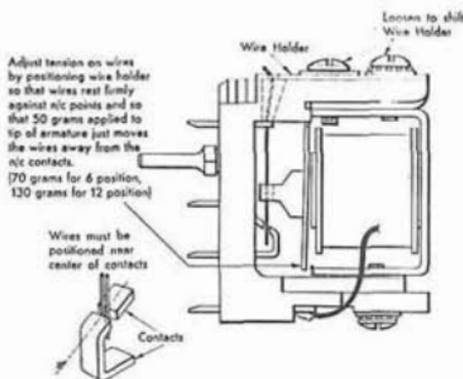

Figure 18
- Figure 18. The contact wires should be inspected to insure that they are positioned near the center of the contacts (Insert, Figure 18). Armature end shake must not permit the wires to reach the edge of the contacts, but the armature pivot must be free.
- Figure 18. Adjust tension on the contact wires by shifting the wire holder so that a 50-gram pressure applied at the center of the free end of the armature just moves the wires away from the contacts on the normally closed side. The 6- and 12-position relays require a 70 and a 130-gram pressure, respectively.